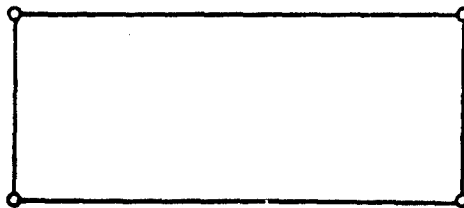

Figure 4. Cables, step five
5. Turn to the right again, disconnect the black snap hook from the template holder, connect the hook to the first black ring. (See Figure 4.)